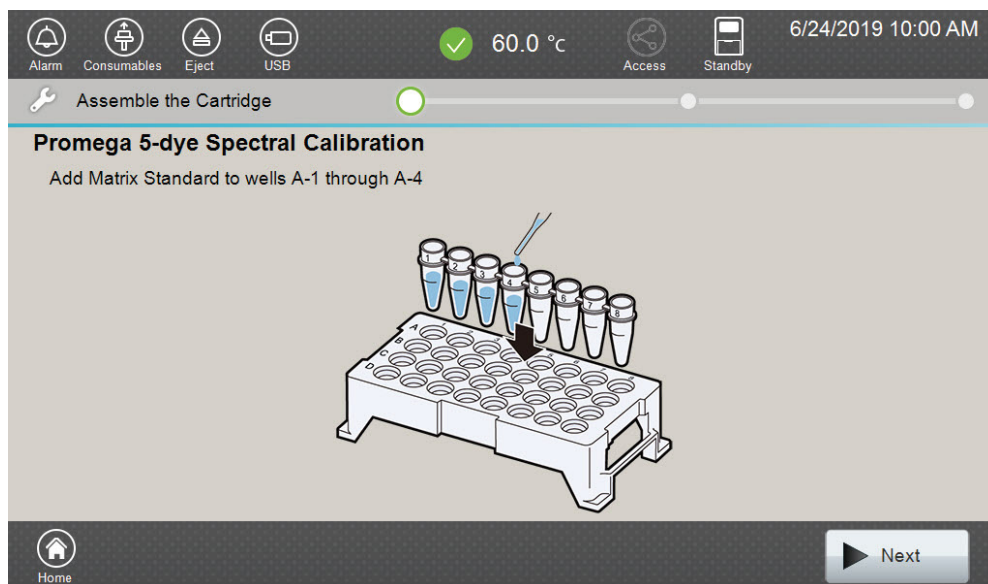

Figure 7. 'Assemble the Cartridge' screen.
4. Use the scroll arrows on the right-hand side of the 'Dye Set List' screen (Figure 6) to find the correct Dye Set/Application Type/Polymer combination from the displayed list. To perform a spectral calibration using the GenePrint® 5C Matrix Standard on Polymer7, select **Promega 5-dye** with "Fragment" and "Polymer7" as application and polymer types, respectively, then select **Calibration**. The 'Assemble the Cartridge' screen will open (Figure 7).
5. Select **Next** on the 'Assemble the Cartridge' screen (Figure 7). A message window will open indicating that the autosampler is moving and telling the user to not open the door. In addition, the status indicator flashes green while the autosampler is moving. After autosampler movement is complete, the message window closes and the status indicator returns to a steady green.